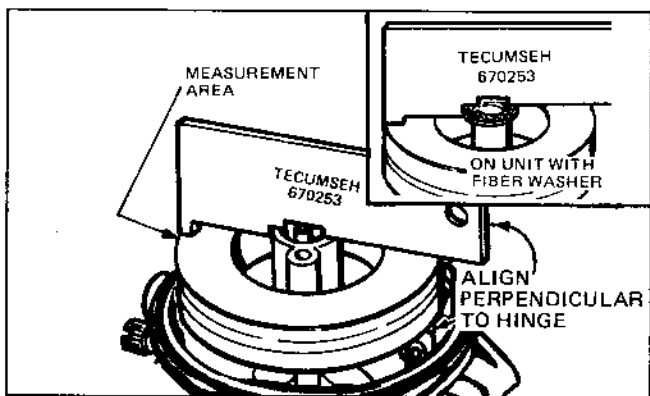
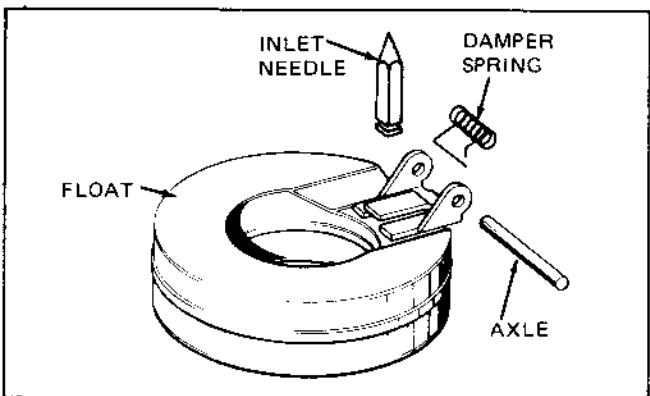

Figure 3-9. Measuring Float Height
Figure 3-9A
With the float setting tool part No. 670253 check position of float as shown in Figure 3-9 for all Tecumseh carburetors. The tab edge of the measurement tool must rest without force or a gap on the float. If the float is too high or too low adjust the height by removing the float and bend the tab accordingly. See Figure 3-9A.
NOTE: On carburetors equipped with a fiber washer between the bowl and casting, use the fiber washer with the float setting tool as pictured in Figure 3-9.
- (2) Figure 3-9A shows a float damper spring used on some outboard carburetors. The carburetor does not have an inlet needle clip. The damper spring stabilizes the float and prevents unnecessary bouncing when the engine is operated in rough water.